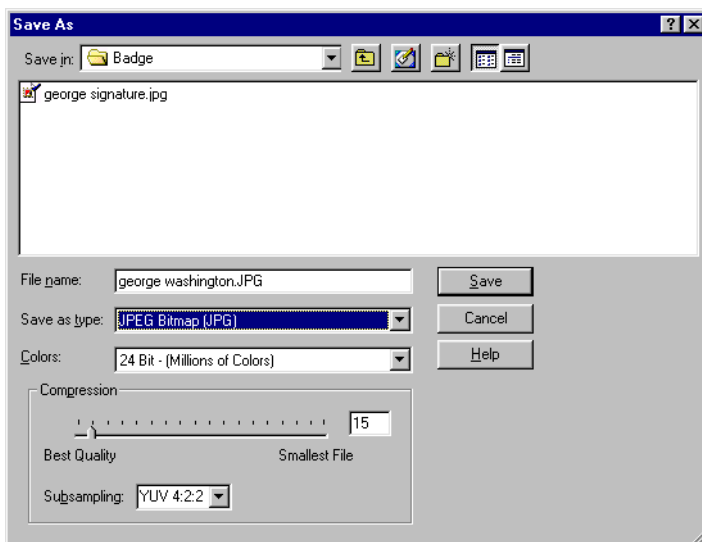

Figure 34: Export Cardholder Signature
14. If desired, the signature image can be exported to one of a variety of graphic file formats. Click the button. A file Save As window appears (see Figure 34).